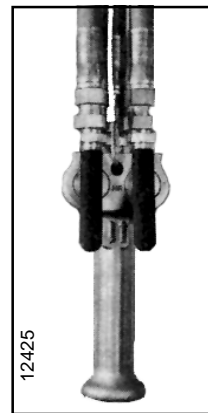

Figure 3-1. Pendant Throttle Control Handle
3-1. GENERAL. Operation of **BUDGIT** Series 6000 Air Hoists is controlled by a pendant throttle control. The Pendant Throttle Control has a convenient lever type control valve handle (Figure 3-1) suspended from the control manifold.
a. Depress throttle valve lever marked ↑ to raise load. See Figure 3-1.